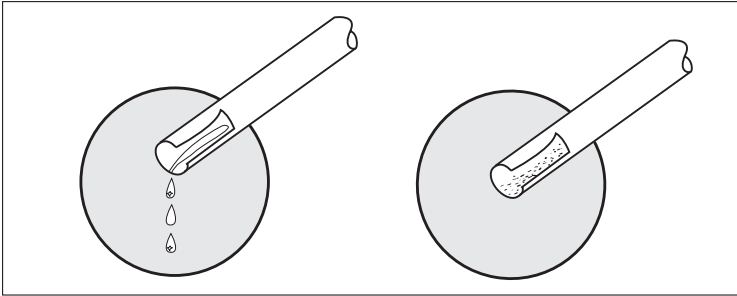

Figure 4. Dirty pipe-ends.
- When laying the piping, protect the open end of the pipe against dust and moisture (see Figure 4) by carefully shielding them with tape or a protection cap (see Figure 5).